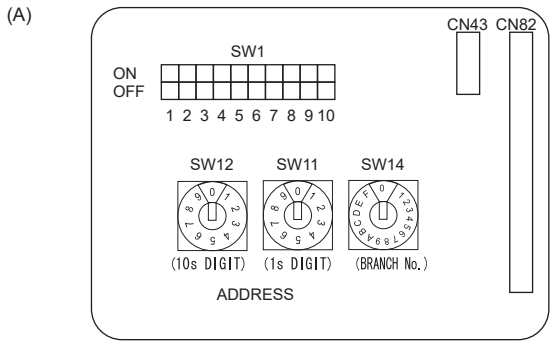

Fig. 6-7
6.5. Setting addresses (Fig. 6-7)